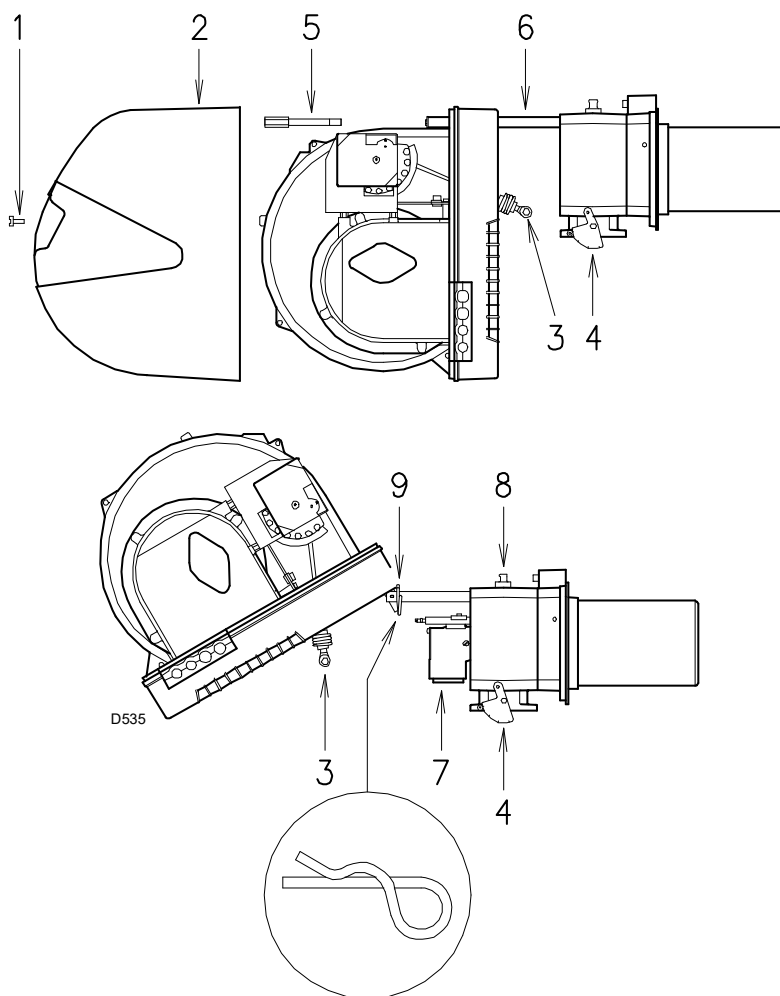

Fig. 33
- Remove the screw 1)(Fig. 33) and take away the cover 2).
- Remove the split pin 9)(Fig. 33) and push the burner until it is approx. 100 mm from the pipe coupling.